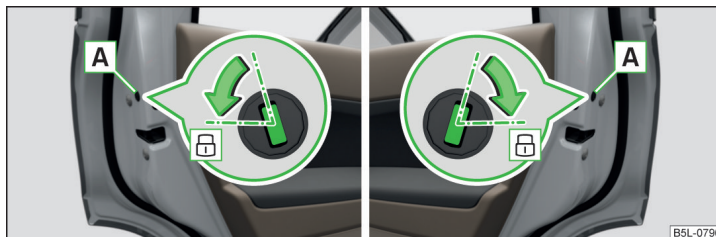

Fig. 186 Emergency locking: Left/right rear door
- › Open the corresponding back door remove the trim **A** » Fig. 186.